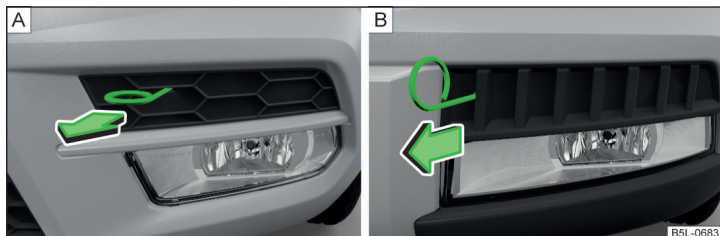

Fig. 207 Guard: Version 1/version 2
- Undo the protective grille in the direction of the arrow » Fig. 207 using the clamp for removing the wheel trims » page 182, *Vehicle tool kit*.
First remove the grille for the fog lights and before changing bulbs » Fig. 207 on page 201 and / or » Fig. 208 on page 201.